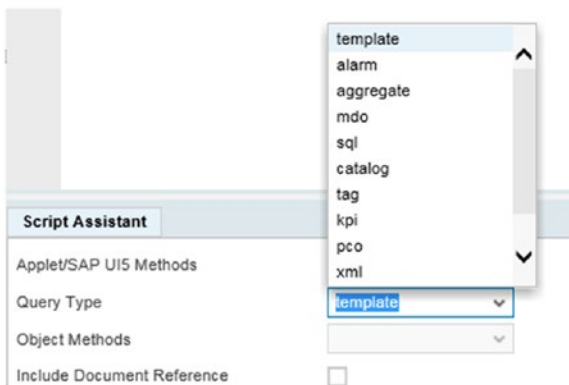

Figure 7-81. Available query types in SSCE
- *Query Type*: Lists the query type if any associated with the Applet method being selected. See Figure 7-81.